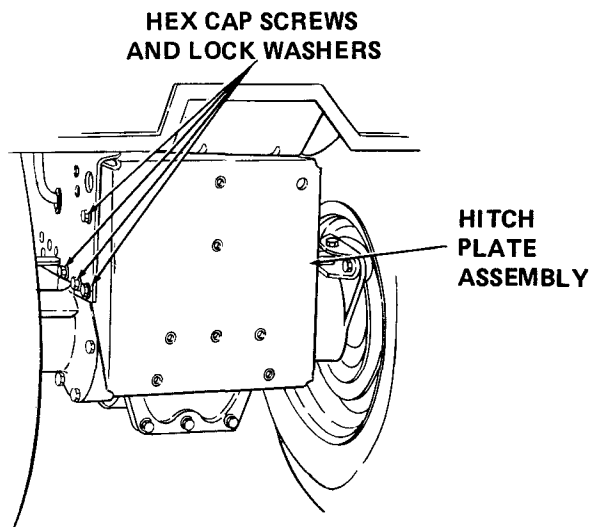

Figure B-5
6. Remove hitch plate assembly from tractor by removing four hex cap screws and lock washers. Refer to Figure B-5.